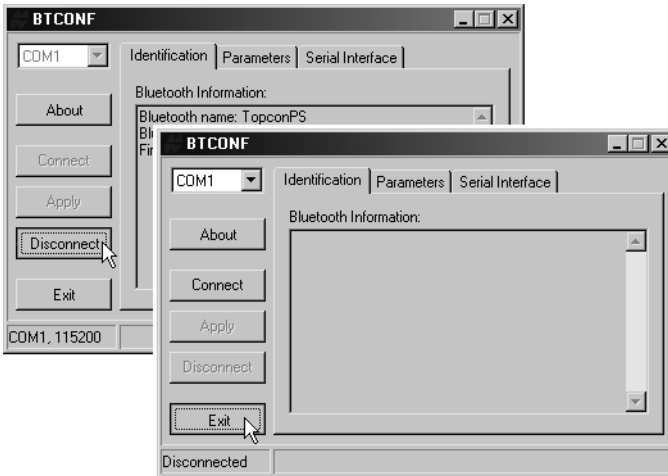

Figure 2-46. Click Disconnect then Exit
- Click **Disconnect** then **Exit** (Figure 2-46) to quit BTCONF.